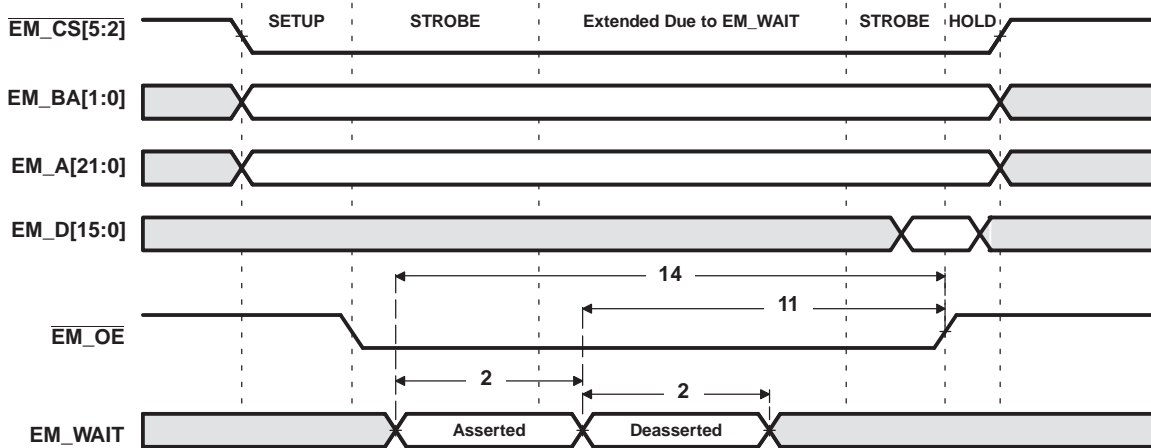
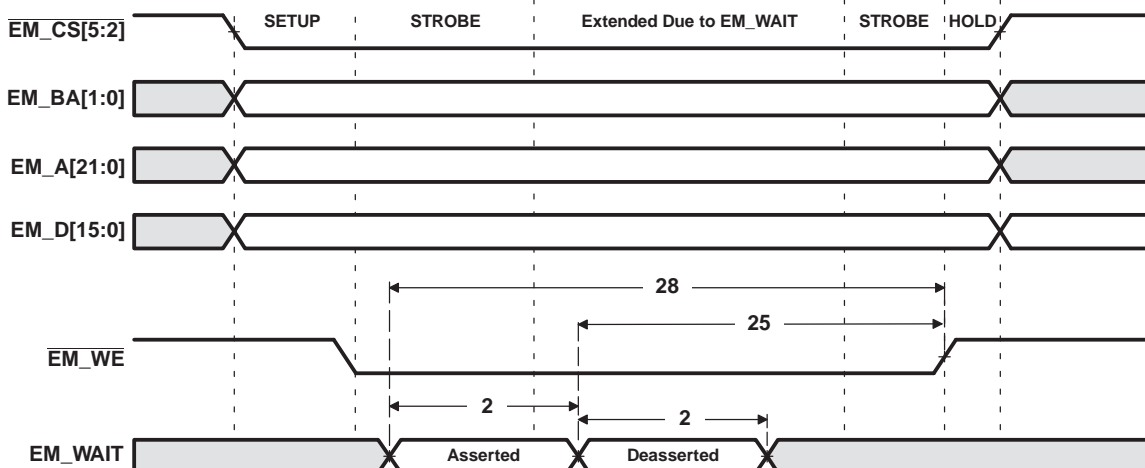

Figure 6-23. EM_WAIT Read Timing Requirements
Figure 6-24. EM_WAIT Write Timing Requirements
- (1) E = SYSCLK5 period in ns for EMIFA. For example, when running the DSP CPU at 594 MHz, use E = 10.1 ns.
(2) Setup before end of STROBE phase (if no extended wait states are inserted) by which EM_WAIT must be asserted to add extended wait states. Figure 6-23 and Figure 6-24 describe EMIF transactions that include extended wait states inserted during the STROBE phase. However, cycles inserted as part of this extended wait period should not be counted; the 4E requirement is to the start of where the HOLD phase would begin if there were no extended wait cycles.